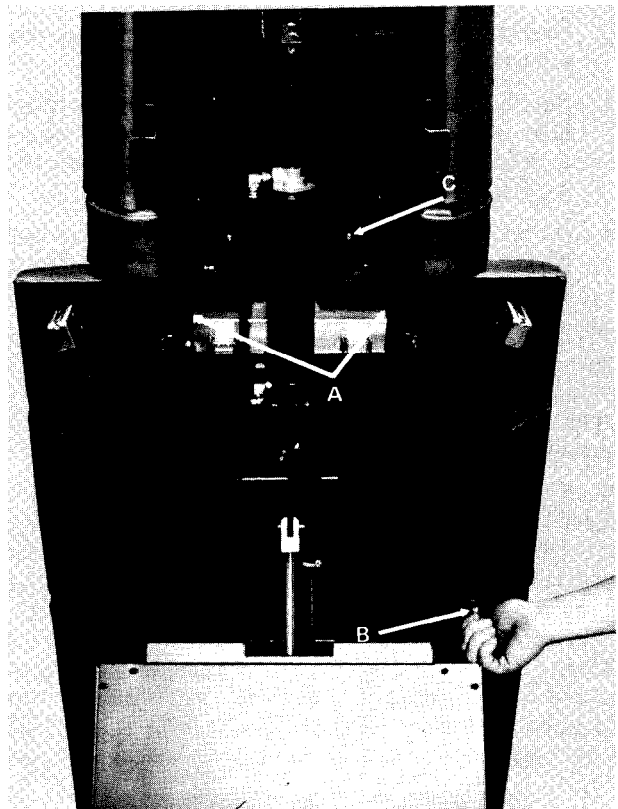

Fig. 5
- 3) Remove the (2) screws located at the front edge of the seat section. (Item A, Fig. 5) It is easiest to do this with the leg extension raised up.
- 4) Remove the (2) screws located under the seat section, near the hinge, by inserting a screwdriver through access hole, Item B, Fig. 5.
- 2) Align front holes under seat section, Item A, Fig. 5 and install (2) 10-24 x 5/8" screws. It is easiest to do this with leg extension raised up.
- 3) With a magnetic screwdriver, install (2) 10-24 x 5/8" screws through the access holes. Item B, Fig. 5.
- 1) Raise foot extension up, remove 2 #10-24 x 1-3/4" screws under the legrest frame, Item C, Fig. 5.
- 2) Align holes and install (2) #10-24 x 1-3/4" screws under the legrest frame, Item C, Fig. 5.